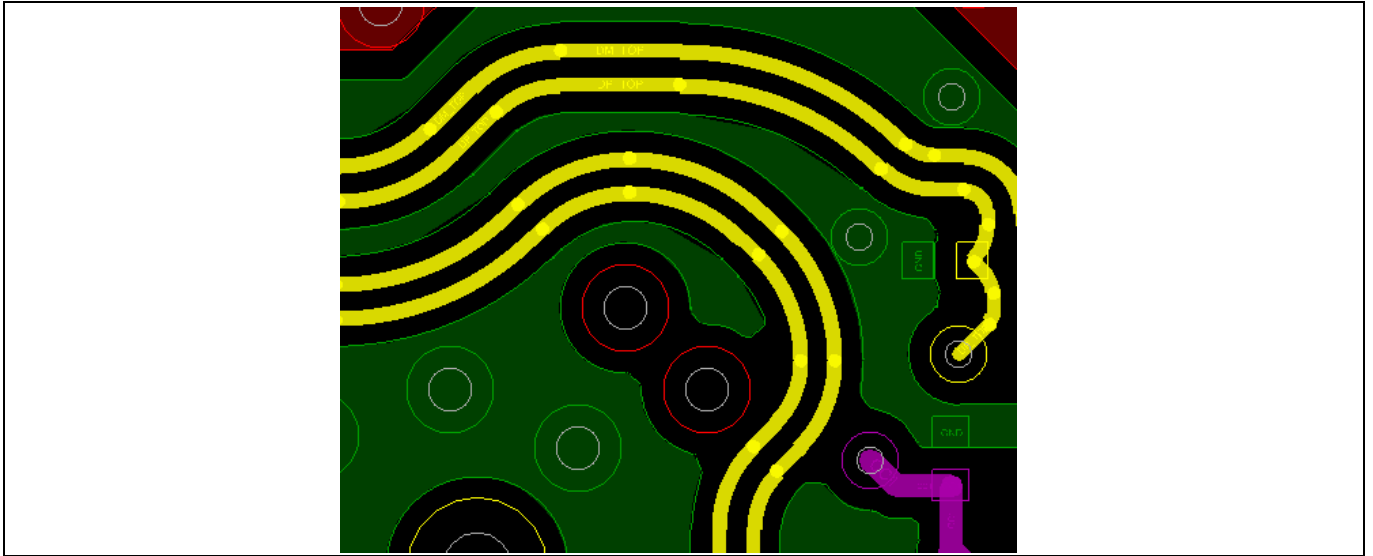

Figure 20 USB High-Speed signal routing - rounded bends
- On USB signal lines, use as few bends as possible. Do not use a 90-degree bend. Use 45-degree or rounded (curved) bends if necessary (see Figure 20).